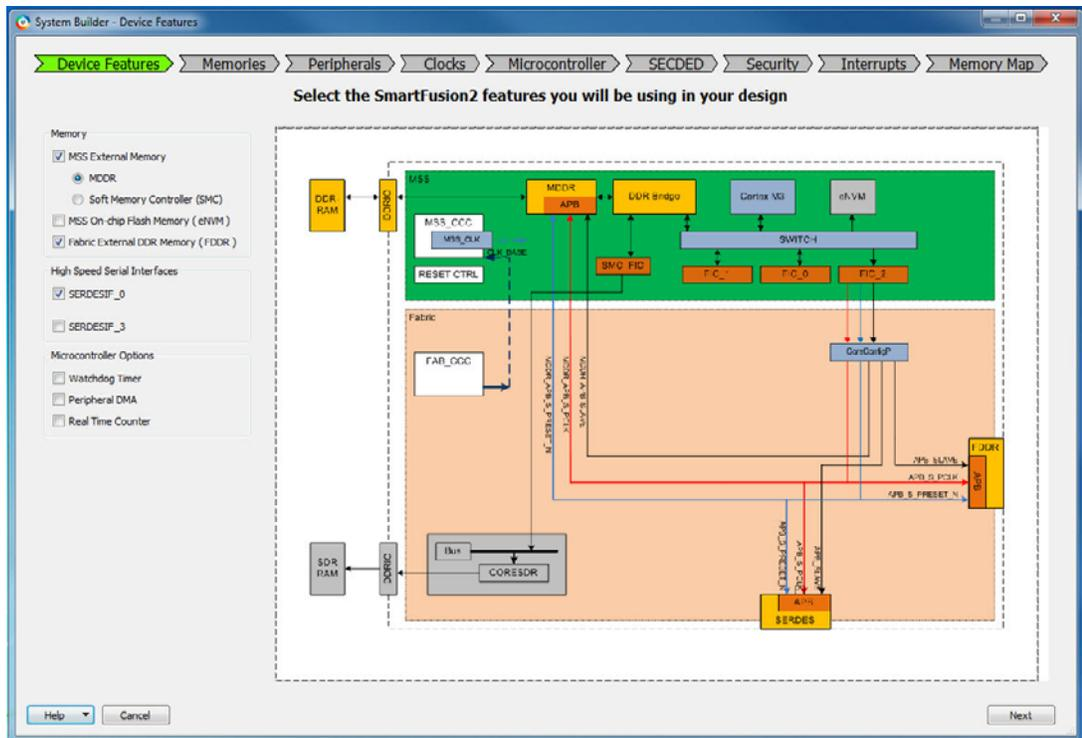

Figure 2-1 • System Builder Device Features Page
1. In the **Device Features** page (Figure 2-1), specify which DDR controllers are used and how many SERDESIF blocks are used in your design.
In the Device Features page, specify which DDR controllers (MDDR and/or FDDR) are used and how many SERDESIF blocks are used in your design (Figure 2-1).